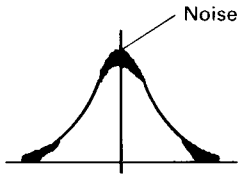

Fig. 19
- Note 1: Apply low-input signals from a sweep generator (with a small amount of noise superimposed on IF waveform as in Fig. 19), and adjust the waveform until it becomes maximum and symmetrical.